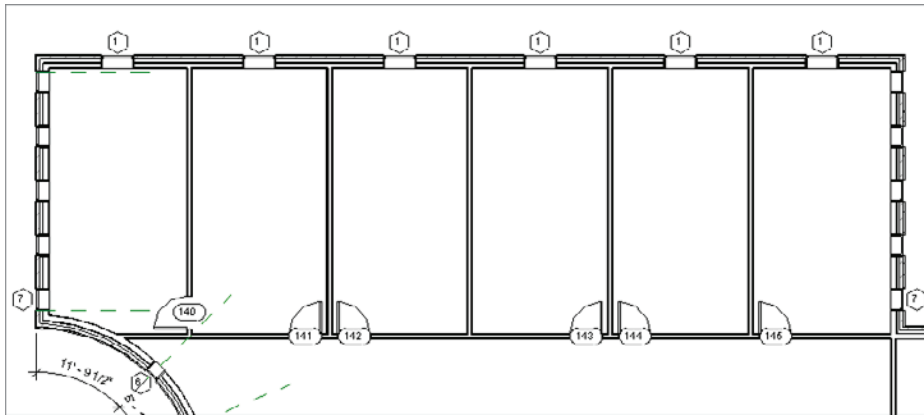

FIGURE 5.37 Adding doors and windows to the floor plan
11. Add doors and windows to the plan, as shown in Figure 5.37. They can be any type of door or window you choose—just try to keep them similar to the ones in Figure 5.37. Also, placement does not matter. You will adjust this in the next procedure.